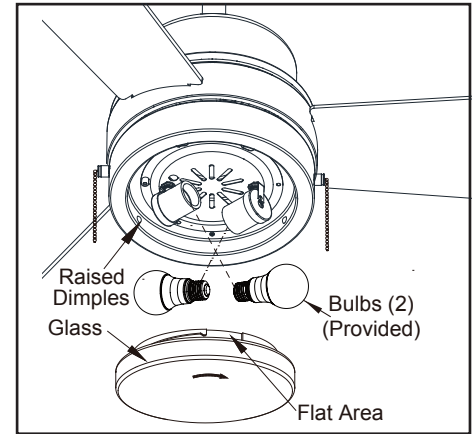

Figure 16
7. With the power off, install the two LED bulbs by screwing them into the light bulb sockets. (Figure 16)
8. Place the glass shade into the light kit pan, aligning the three flat areas on the top of the glass shade with three raised dimples in the light kit pan. Turn the glass shade clockwise until it stops. (Figure 16)